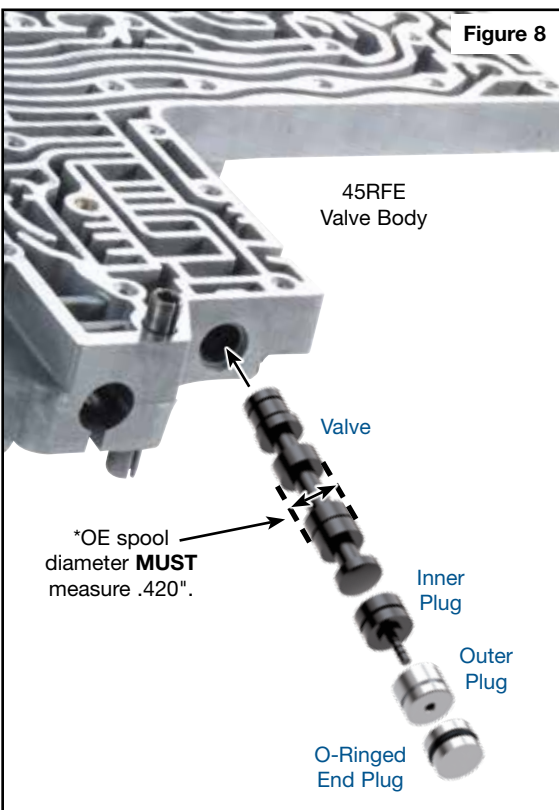

Figure 8
**WARNING:** Measure large spool diameter on OE switch valve (Figure 8) to verify which Sonnax part will fit the unit being repaired. Some Chrysler switch valves measure .420" dia. and others .453" dia. Another third version found in "late" anodized valve bodies have a .453" dia. but with a narrower spool and incorporates an ID groove. If you have the .420" dia valve, you need to confirm you have the **SC-RFE-420** Sure Cure Kit. If you have the .453" dia. valve confirm you have the **SC-RFE-453** Sure Cure kit.
- Install Sonnax solenoid switch valve, small diameter first (Figure 8).
- Insert O-ringed end plug into bore, nub facing inward (Figure 8 & 9).